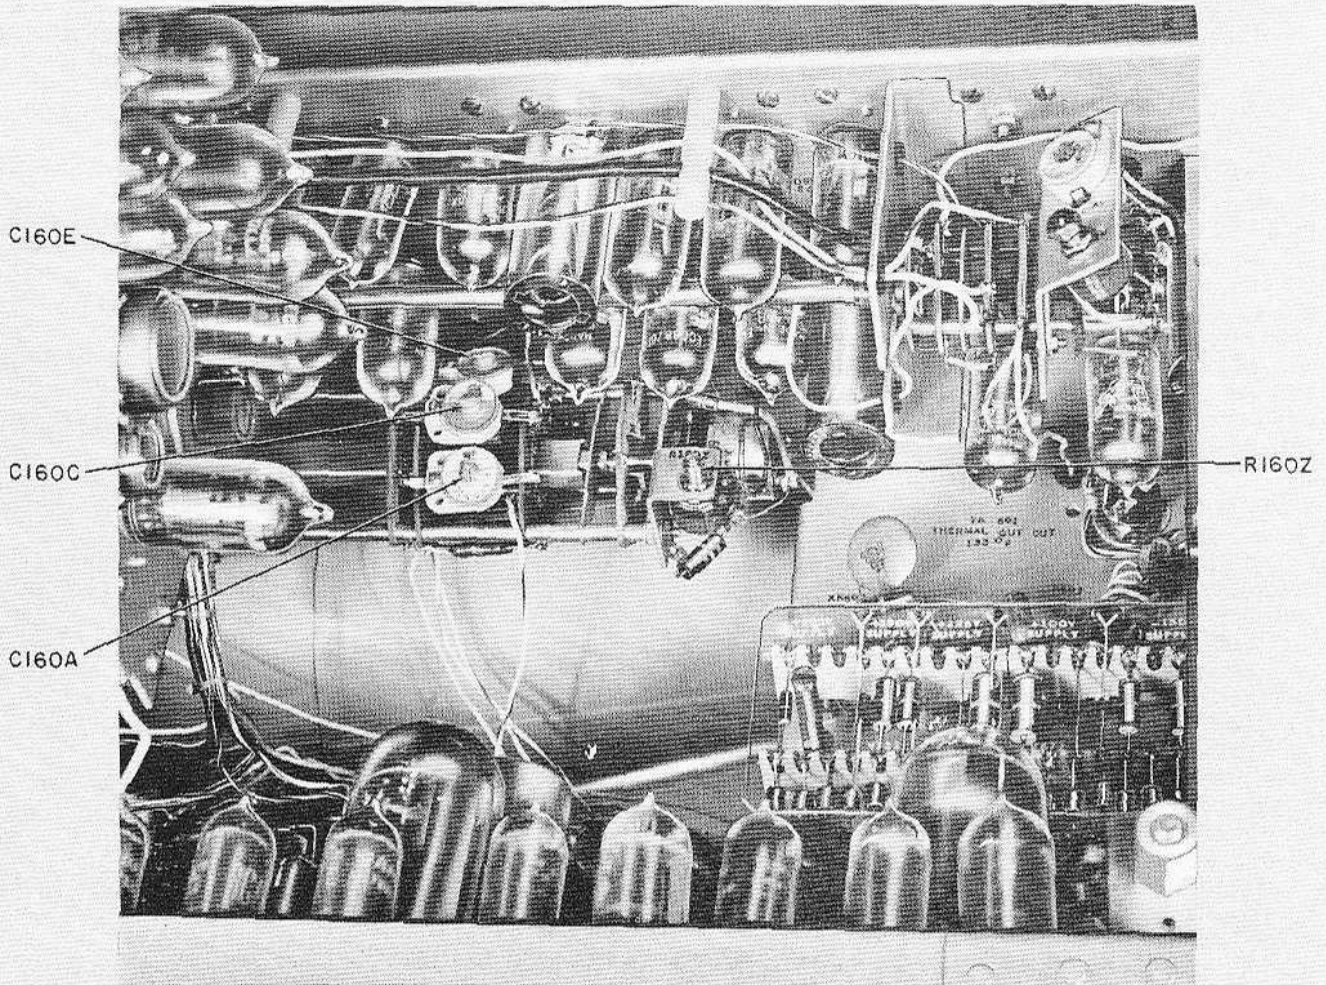

Figure 7-6. Time Base A Sweep Speed Calibration Points
c. Adjust potentiometer R160Z (see figure 7-6) for one time mark each centimeter.
- g. Set TIME/CM control to positions indicated, adjusting time mark generator as indicated, and adjust associated variable capacitor (see figure 7-6) as outlined in figure 7-7.